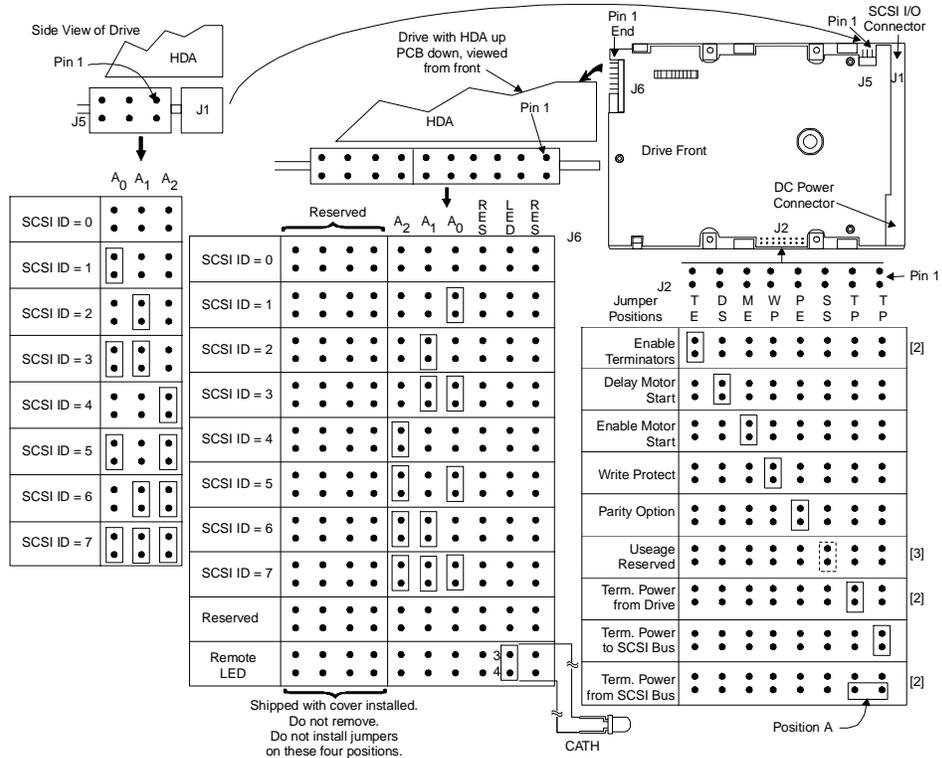

Figure 4-8. Location of Seagate 31230N Jumper Fields
The ST31230N is a 3.5 inch hard disk drive with a capacity of approximately 1050 megabytes, that provides up to 100 hours of voice storage when used with the DEFINITY AUDIX System. It supports the SCSI interface. Figure 4-8, *Location of Seagate 31230N Jumper Fields*, shows the location of the jumper fields.
- *Terminator enable (TE):* When a jumper is installed on pins TE, the terminators are enabled. This jumper must be removed for the drive to operate in AUDIX. See Figure 4-8.
- *Delay motor start (DS):* When a jumper is installed on pins DS, the motor start will be delayed by SCSI ID times 12 seconds after power is applied. This jumper must be removed for the drive to operate in AUDIX.
- *Enable Motor Start (ME):* When a jumper is installed on pins ME of this jumper block, the drive spindle motor will not start on power-up until it has received a motor start command. This feature is used to sequence drive spin-up to reduce maximum current requirements. Therefore a jumper should be installed on this position. See Figure 4-8.
- *Bus Parity (PE):* When a jumper is installed on pins PE, the drive will check the SCSI bus parity. The drive will operate in AUDIX with or without this jumper. However, it is recommended that this jumper be installed. See Figure 4-8.
- Disk06 should have only the A1 and A2 jumpers installed.These three jumpers are identified in Figure 4-8.